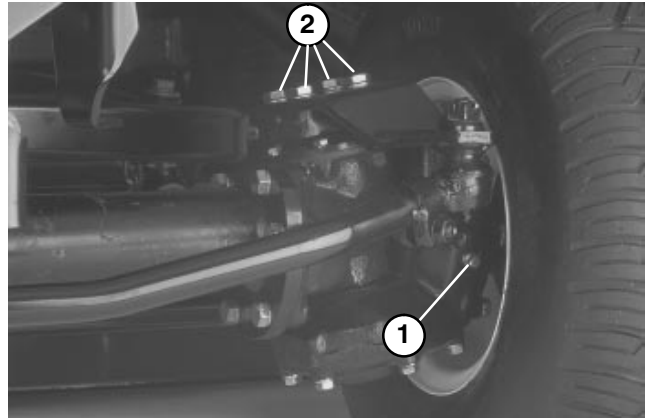

Figure 21
(Fig. 21 & 22) (Models 03541 & 03544 only)
2. Remove a check plug from each end of axle and make sure lubricant is up to bottom of hole. If level is low, remove one of the mounting bolts above each end plug and add enough lubricant to bring the level up to the bottom of the hole (Fig. 21).